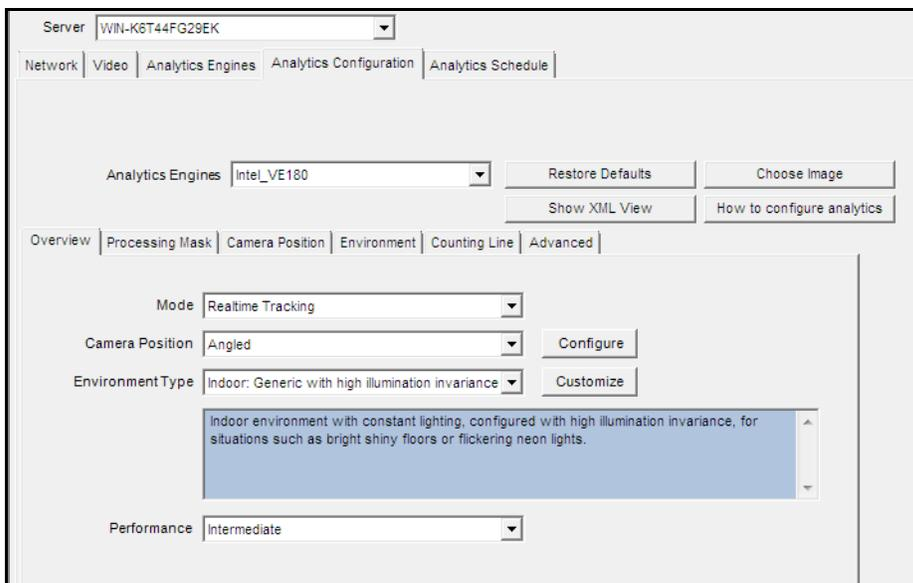

Figure 16. Analytics Configuration tab for VE180
5. Click the **Analytics Configuration** tab (Figure 16 on page 142). From the **Analytics Engines** drop-down list, select **Intel_VE180**.